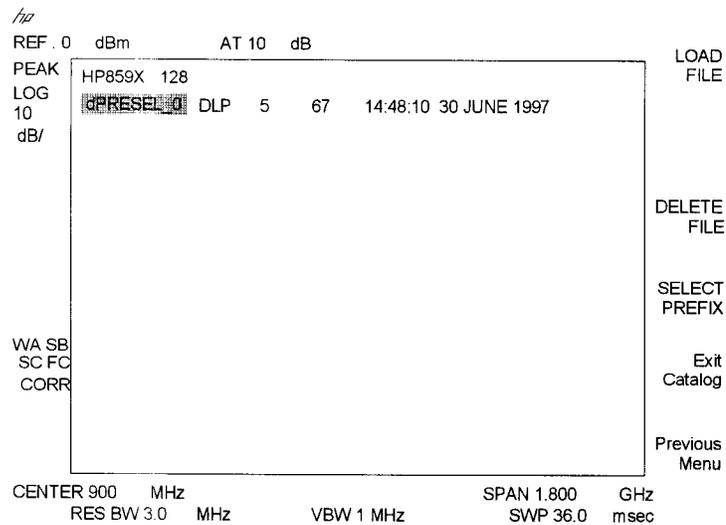

Figure 2.4 Showing dPRESEL DLP selected.
3. Press the `Catalog Card` softkey. This exposes the `CATALOG ALL` softkey. The memory card contents will be displayed on the screen with the `dPRESEL_0` DLP highlighted, see Figure 2.4.